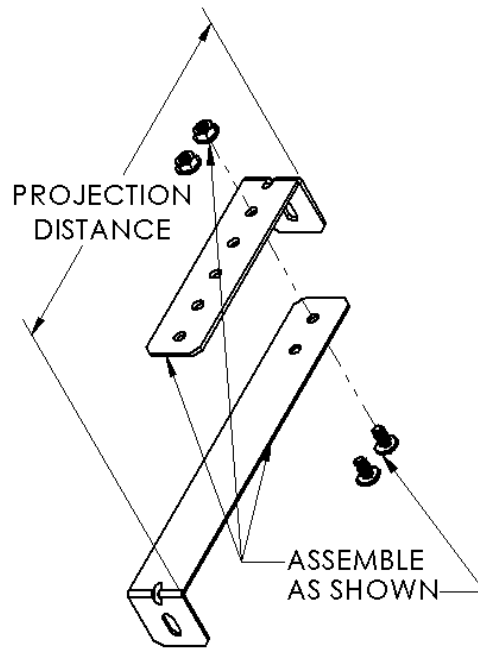
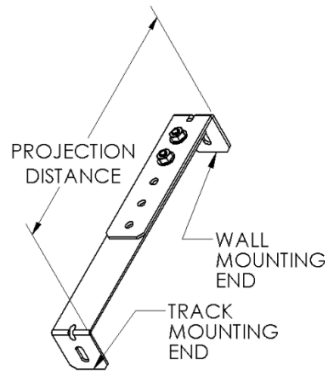

Figure 8 TRACK BRACKET ASSEMBLY
Figure 9 COMPLETED TRACK BRACKET ASSEMBLY (8 Req'd)
3. Assemble (8) eight Track Bracket assemblies to the same dimension as the Header Brackets by measuring to the outer edges of the brackets and installing (2) two sets of ¼-20 screws and nuts, provided, through corresponding holes. Set these Brackets aside for now. (Figure 8 TRACK BRACKET ASSEMBLY, Figure 9 COMPLETED TRACK BRACKET ASSEMBLY (8 Req'd))